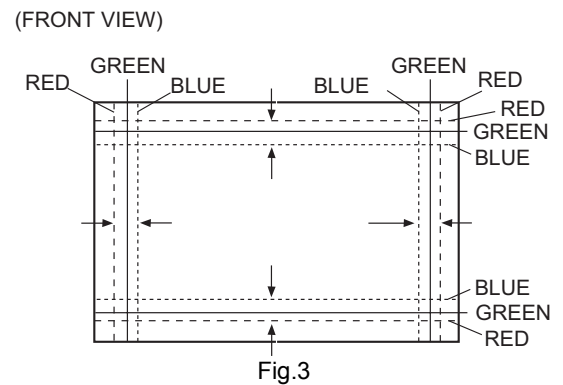
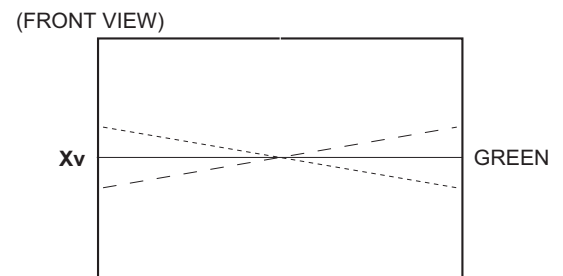

Fig.3
Fig.4
- (7) Adjust the gap between two lugs so that the GREEN RASTER will come into the centre of the screen. (Fig.3)
- (8) Move the deflection yoke forward, and fix the position of the deflection yoke so that the whole screen will become green.
- (9) Insert the wedge to the top side of the deflection yoke so that it will not move.
- (10) Input a crosshatch signal.
- (11) Verify that the screen is horizontal.
- (12) Input red and blue raster signals, and make sure that purity is properly adjusted.
- (2) Move the deflection yoke left to right and overlap the lines in the periphery. (Fig. 3)
- (3) Repeat 1 and 2 above, and make best convergence.
- (4) Adjust XV by XV coil. (Fig.4)